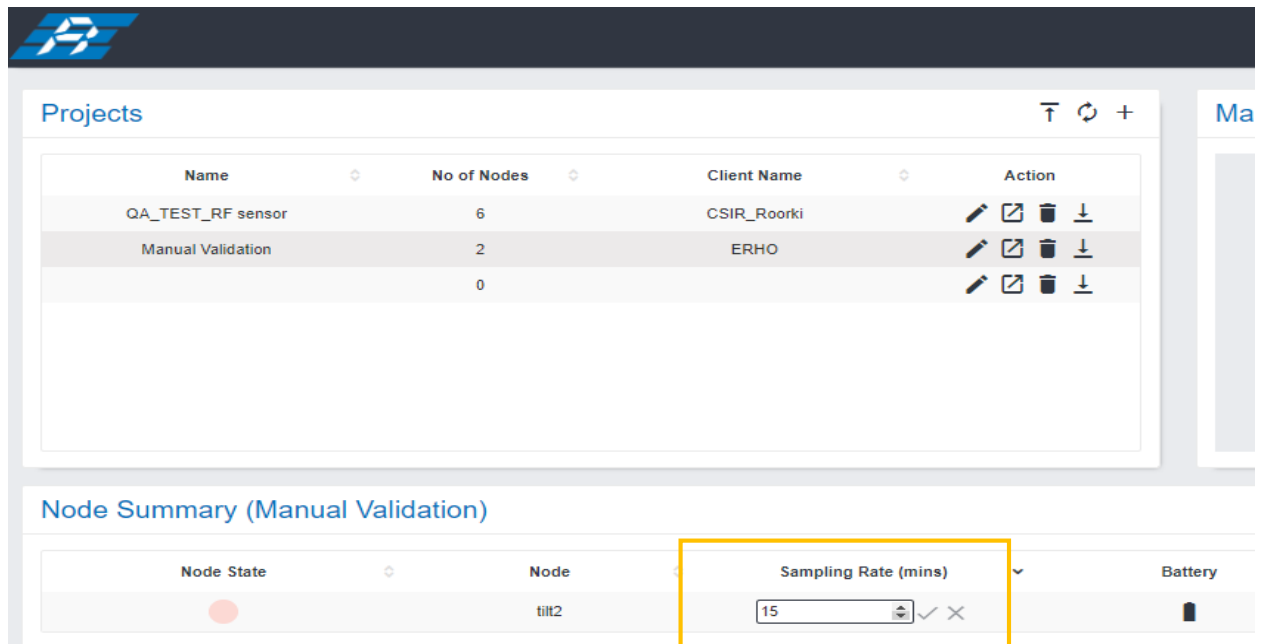

Figure 3-24
- Set the desired "Sampling Rate" for all the nodes. The rate can be reset by the user by clicking the Up and Down button. Once the desired rate is set, click on the tick button to complete the step. (Refer to figure 3-24)